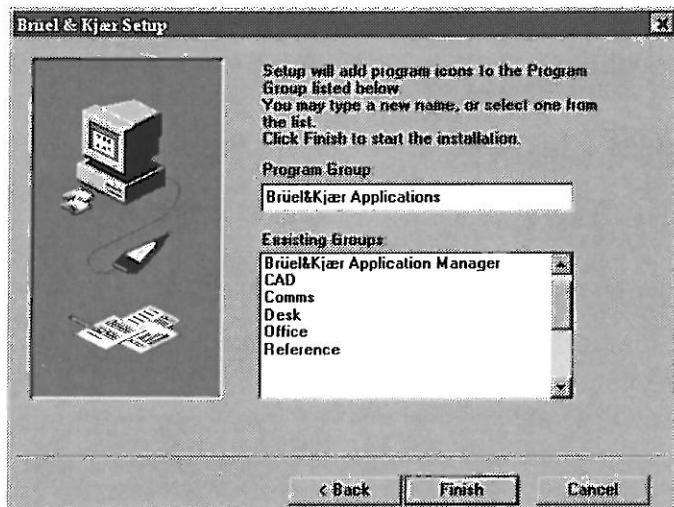

Fig.4 The group to which Noise Explorer is added is specified in the Program Group box
10. The window that appears next (see Fig. 4) asks you to select a Program Group.